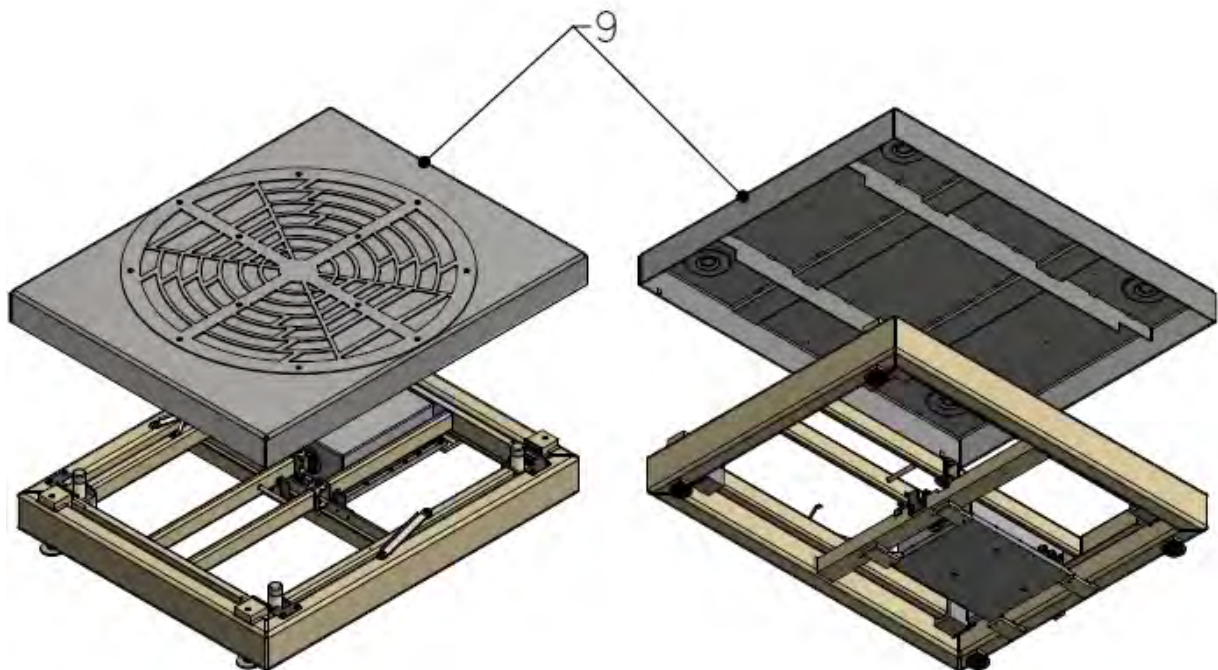

Fig.5
5. Put the weighting pan (9) onto the mandrel (4). (Fig.5)